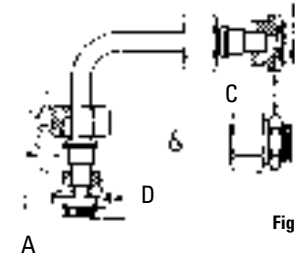

Figure 4
**Tubes should be formed to assemble with true alignment to the center line of the fittings, without distortion or tension.** Tubing which has to be sprung from position, "A," (see Fig. 4), to be inserted into the connector has not been properly fabricated, and when so installed and connected, places the tubing under stress.
When assembling the tubing, insert the longer leg to the connector as at "C" (Fig. 4). With the nut free, the short leg of the tubing can be easily moved and brought to proper position with and inserted into the seat in connector "D". The nuts can then be tightened as required.